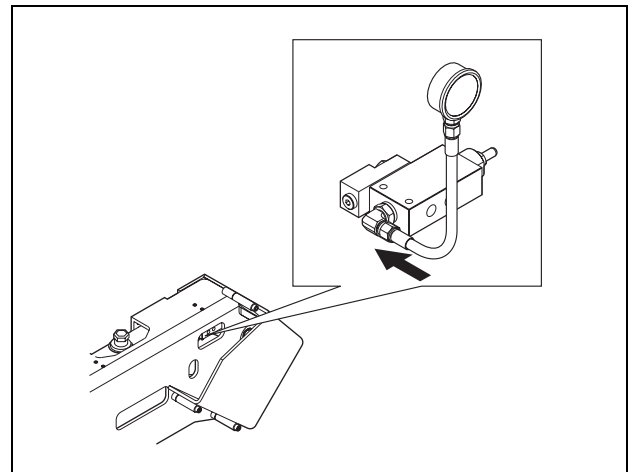

Fig. 27 Connect a pressure gauge to the pressure regulating valve
3. Connect a suitable pressure gauge to the pressure regulating valve. *See Fig. 27.*
3. Connect a suitable pressure gauge to the pressure test point on the feed out cylinder. *See Fig. 27.*